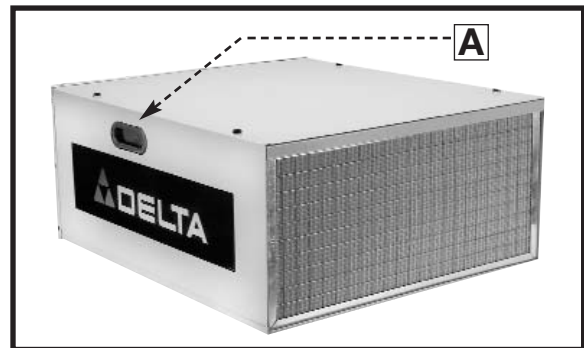

Fig. 4
The air cleaner cabinet has convenient lifting handles located on either side (one of which is shown at (A) Fig. 4). To avoid damage to the air filters, carry the air cleaner with the filters positioned away from your body.